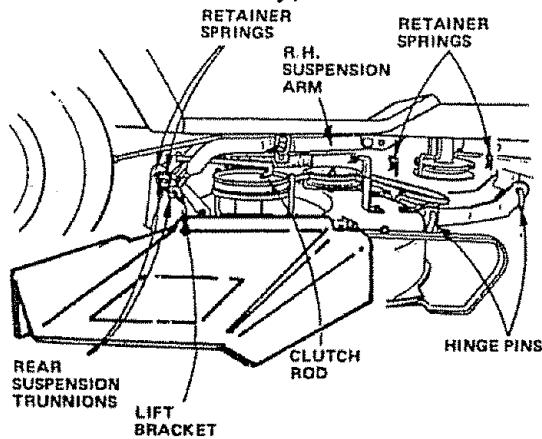

FIGURE 36
- c. Pull retainer springs out of rear suspension trunnions. Remove rear suspension trunnions from lift brackets (Fig. 36).
- d. Pull retainer spring out of rear hinge pin. Remove rear hinge pin (Fig. 36).
- e. Pull retainer spring out of front hinge pin. Remove front hinge pin (Fig. 36).
NOTE: IF AN ATTACHMENT OTHER THAN THE MOWER DECK IS TO BE MOUNTED ON THE TRACTOR, THE L.H. AND R.H. SUSPENSION ARMS (FIG. 36) SHOULD BE REMOVED FROM TRACTOR.